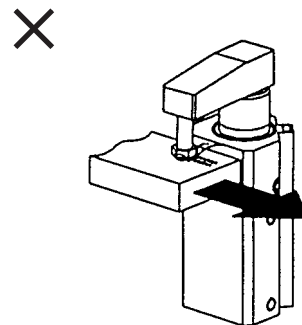

Figure 7
- ⑤ Do not operate the cylinder in such a way that an external force causes the workpiece to move during clamping (Fig. 7).
- ⑥ Furthermore, do not operate the cylinder in an application in which a rotational force will be applied to the piston rod.
① Do not operate the cylinder horizontally. ✕